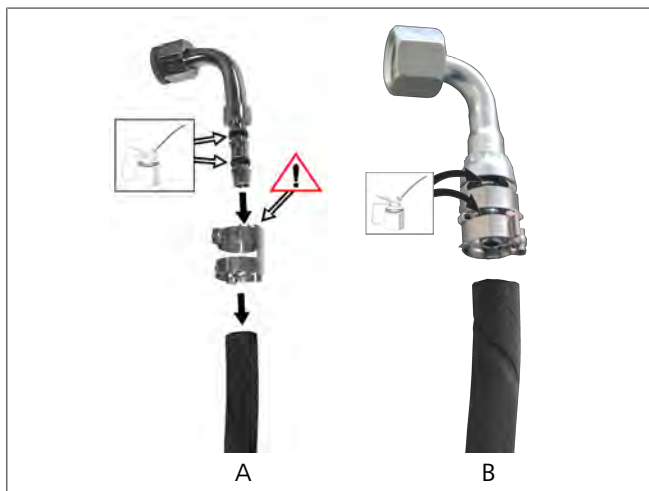

Fig. 20 Lubricate fittings
- Fitting with separate clamps: see Fig. 20, part A.
- Fitting with a fixed clamp: see Fig. 20, part B.